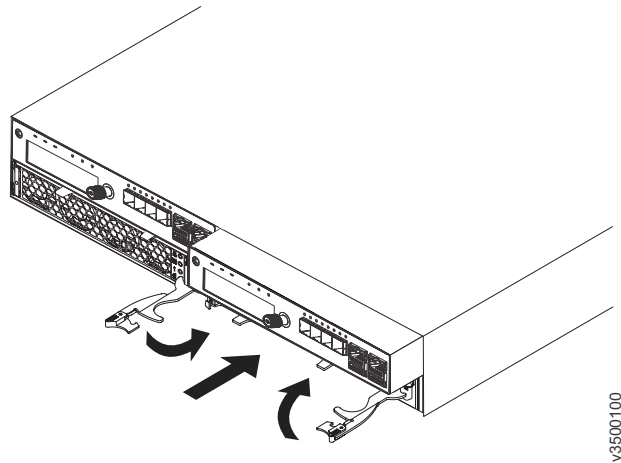

Figure 22. Installing a node canister
2. Turn the canister over and install it in the control enclosure as shown in Figure 22.